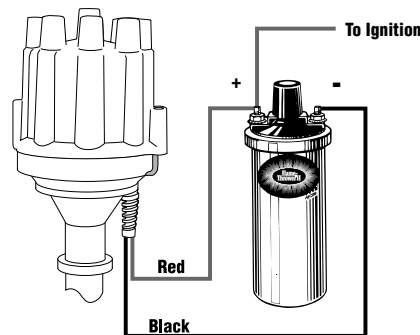

FIGURE 1
2. Attach the black Ignitor II wire to the negative coil terminal. Attach the red Ignitor II wire to the positive coil terminal. (See Figure 1)